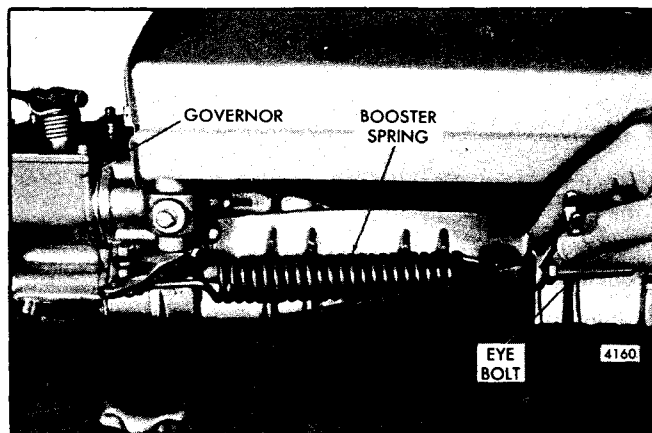

Fig. 9 - Adjusting Booster Spring
2. Refer to Fig. 9 and loosen the nut on the booster spring retaining bolt on the governor speed control lever. Loosen the lock nuts on the eye bolt at the opposite end of the booster spring.